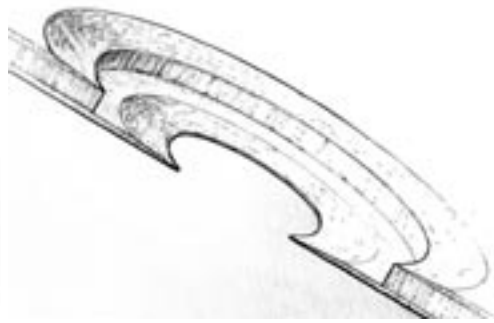

Figure 5-16 Grind a 12-to-1 bevel around the edge of the inner and outer skins.
3. Grind a minimum 12-to-1 bevel around the inner edges of both skins to provide adequate bonding surface when relaminating the skin repair patches (*Figure 5-16*).